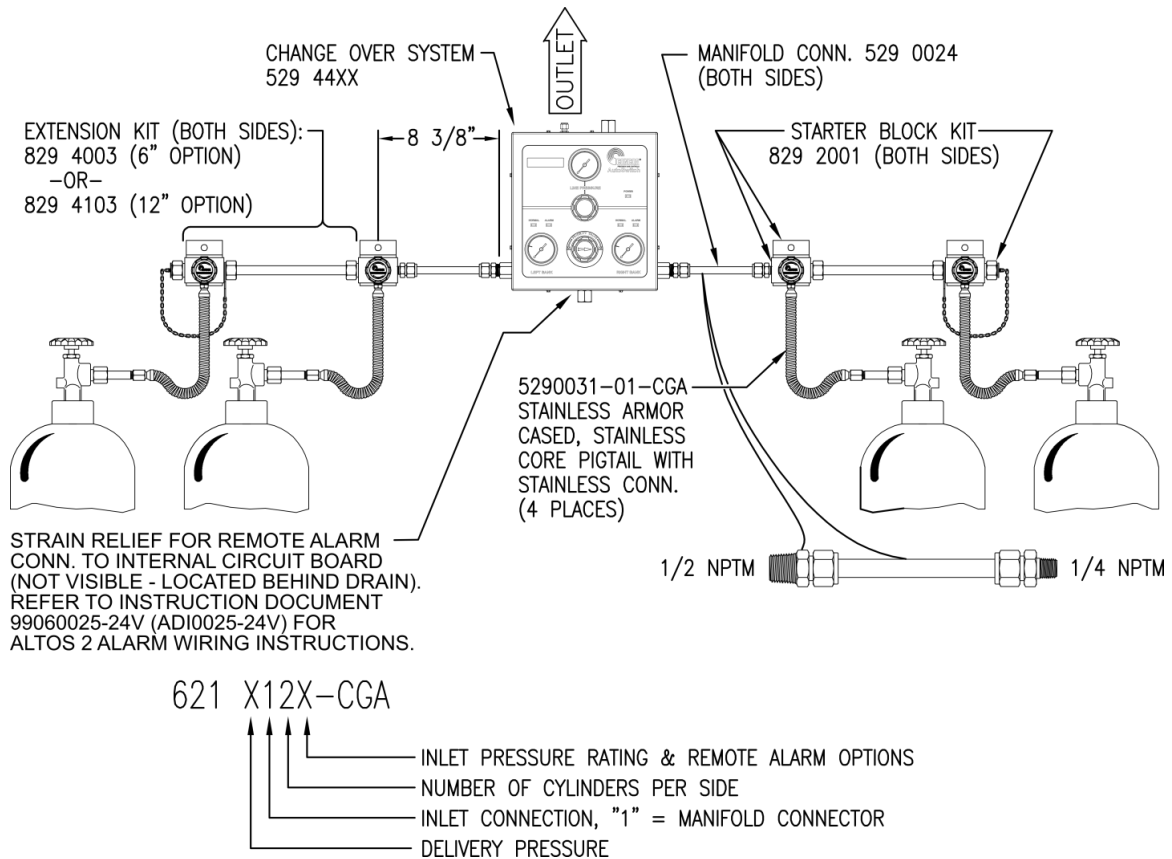

Figure 7 - Manifold Connector for Maniflex Header System Shown with Two Cylinders per Side
System 621 X12X-CGA (typical manifold setup with the manifold connector) – see Figure 7 for locations of components:
2. After taping the male NPT connections, thread the 1/2 NPT of the manifold connector into the bulkhead connector of the AutoSwitch as shown in Figure 7. Wrench-tighten.
4. Thread the 1/4 NPT connection of the tube fitting just removed into the starter block of the manifold as shown in Figure 7. Wrench-tighten.
5. Insert the tube fitting of the starter block into the pre-swaged tubing of the manifold connector as shown in Figure 7. While holding the hex of the tube-fitting nut and body hex, rotate the wrench until a significant increase in torque is felt; after the increase is felt, tighten slightly.